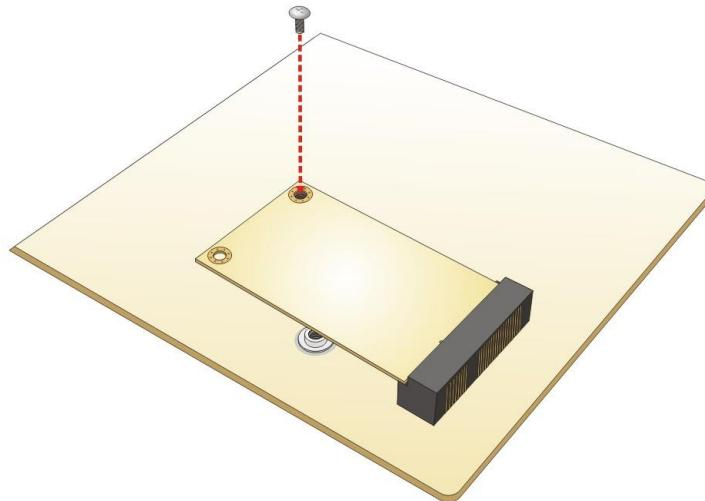

Figure 4-5: Securing the mSATA Module
Step 4: Secure the mSATA module. Secure the mSATA module with the retention screw previously removed (**Figure 4-5**).